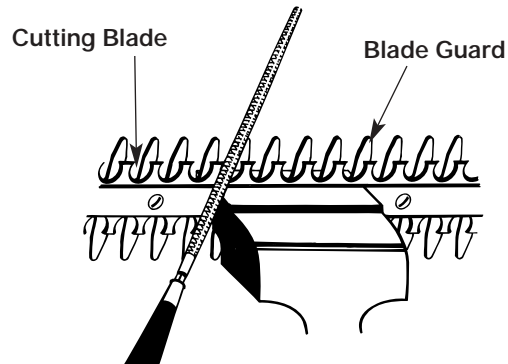

Fig. 11
1. Allow your hedge trimmer to come to a stop with the cutter blade and guard positioned as shown in Figure 11. This will allow clearance for the file between cutter teeth and guard teeth.